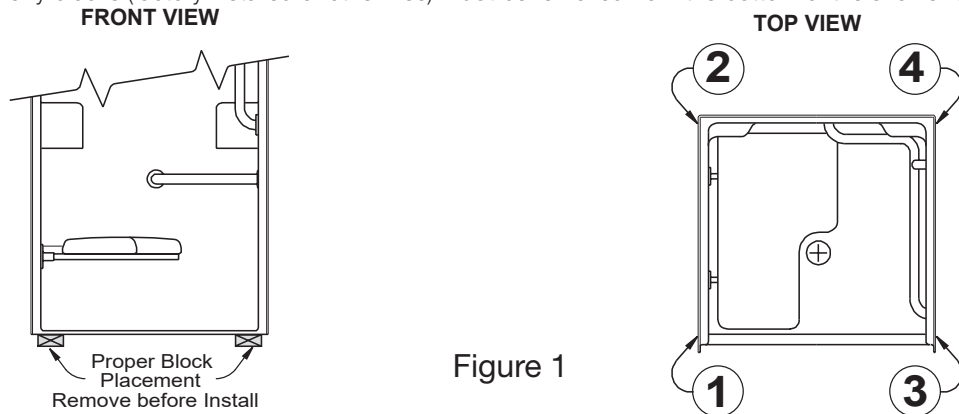

Figure 1
Very Important for showers with thresholds 2 inches or less (Figure 1):
11. Install the recommended brass drain (sold separately) in the unit prior to setting it into its final position, but do not store the shower on its bottom with the drain fitting installed. **See Figures 1 & 10.**